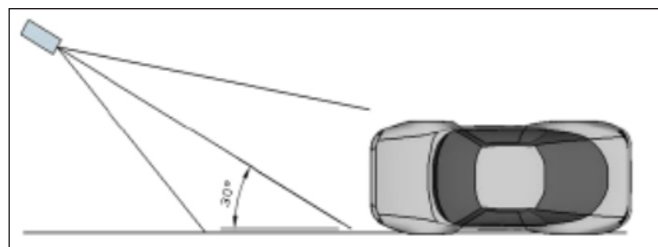

Fig 1.2
- The view angle should be within 30 degrees to the path of movement (fig1.2)